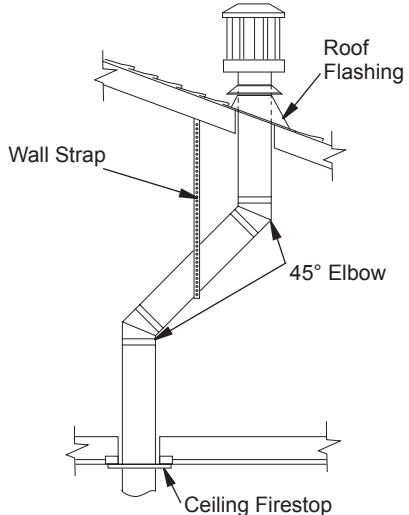

Figure 20 - Offset with Wall Strap and 45° Elbows
1. Determine the route your vertical venting will take. If ceiling joists, roof rafters, or other framing will obstruct the venting system, consider an offset (see Figure 20) to avoid cutting load bearing members.
4. Connect a section of pipe and extend up through the hole. *Note: If an offset is needed to avoid obstructions, you must support vent pipe every 3 feet. Use wall straps for this purpose (see Figure 20, page 13). Whenever possible, use 45° elbows instead of 90° elbows. The 45° elbow offers less restriction to the flow of flue gases and intake air.*
5. Place flashing over pipe section(s) extending through the roof. Secure base of flashing to roof and framing with roofing nails. Be sure roofing material overlaps the top edge of the flashing as shown in Figure 20, page 13. There must be a 1" clearance from vent pipe to combustible materials.